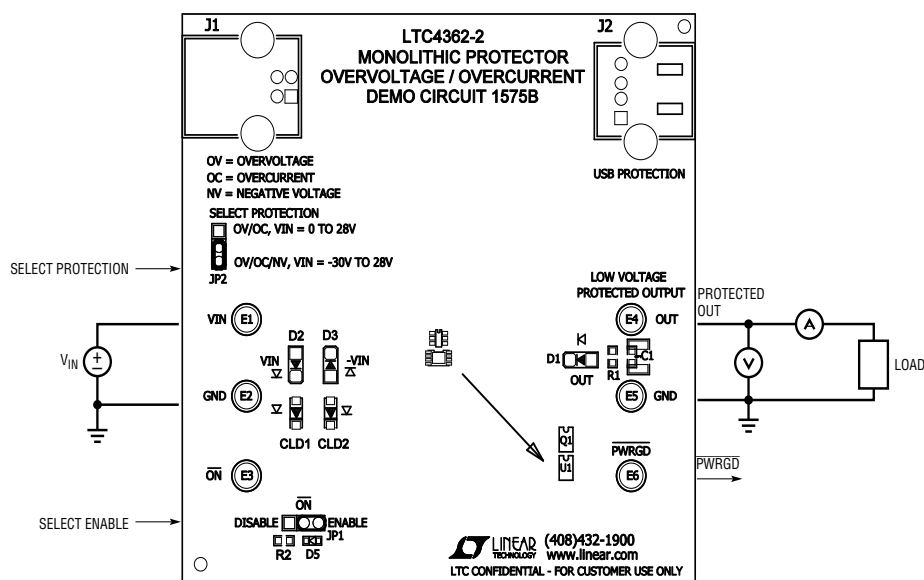

Figure 1. DC1575B Basic Setup
Demonstration circuit 1575B is easy to set up to evaluate the performance of the LTC4362. Refer to Figures 1 and 2 for proper measurement equipment setup and follow the procedure below:
- 1) Connect the load and measurement across the OUT and GND (Figure 1).